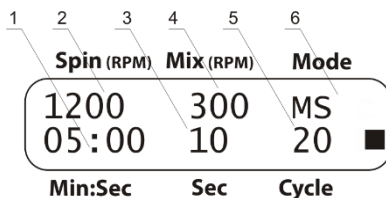

Figure 4. Centrifugation + vortexing
5.10.1 Select the alternating centrifugation and vortexing algorithm (indication **M.S.** of **Mode** parameter, fig. 4/6).
5.10.2 Set the required centrifugation speed, from 300 to 1500 rpm (increment 100 rpm, fig. 4/2)
5.10.3 Set the required centrifugation time, from 1 s to 30 min (increment 1 s, after 1 min - 1 min, fig. 4/1).
5.10.4 Set the required vortexing speed, from 300 to 1200 rpm (increment 100 rpm, fig. 4/4).
5.10.5 Set the required vortexing time, from 1 to 60 s (increment 1 s, fig. 4/3).
5.10.6 Set the required SMS-algorithm cycle count, from 1 to 999 (fig. 4/5).